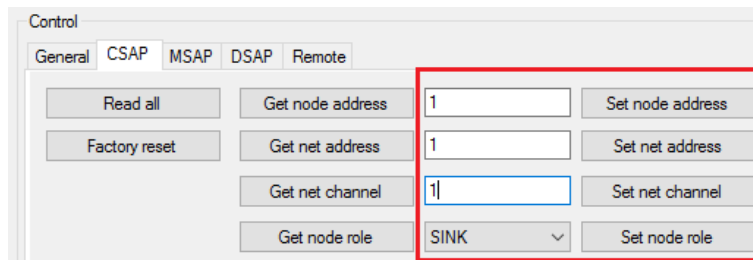

Figure 8: Configure the node
- b) Go to the "Configuration" tab and set a unique node address, set the network address, set the network channel and set the node role to "SINK" (e.g. 1 for node address, network address and network channel, refer to Figure 8).